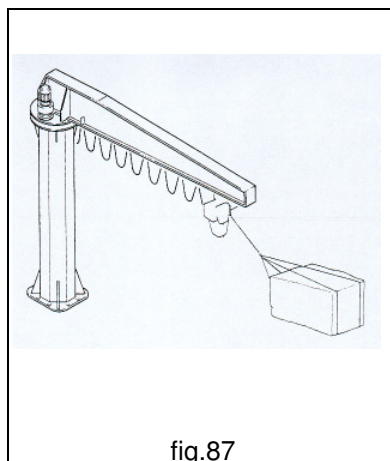

fig.87
- **NEVER** place the rope or chain in a diagonal pulling position (fig.87).